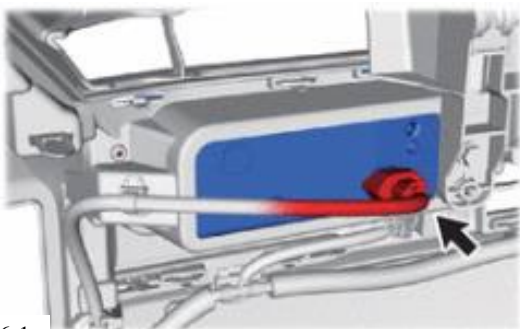

Fig. 6-1
- (1) Install the two previously removed screws.
- (2) Plug-in fog light wire harness connector.
- (3) Repeat for opposite side.
- (f) Plug-in LH & RH front corner ultrasonic sensors into wire harness (Fig. 6-1).
- (1) Install the radiator shutter assembly.